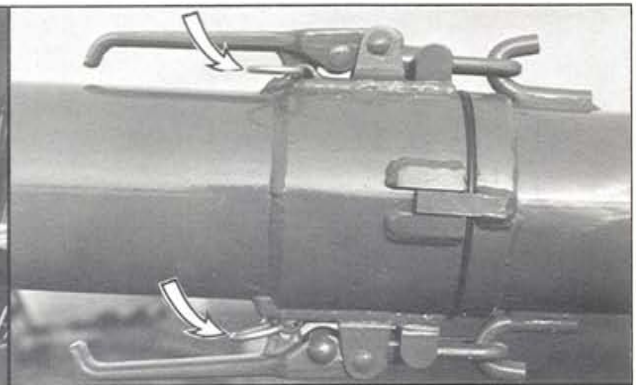

Figure 14 Locking discharge cyclone
6. Remove the discharge cyclone from its transport position and connect it to the end of the boom. Be sure to push the connecting latches over center and install the locking click pins to prevent unlocking from vibration. (see figure 14)